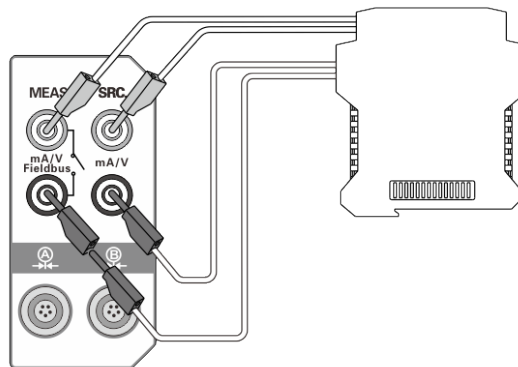

Figure 30 Calibration of the signal isolator
- ◆ Connect the calibrator and the signal isolator as shown in Figure 30;